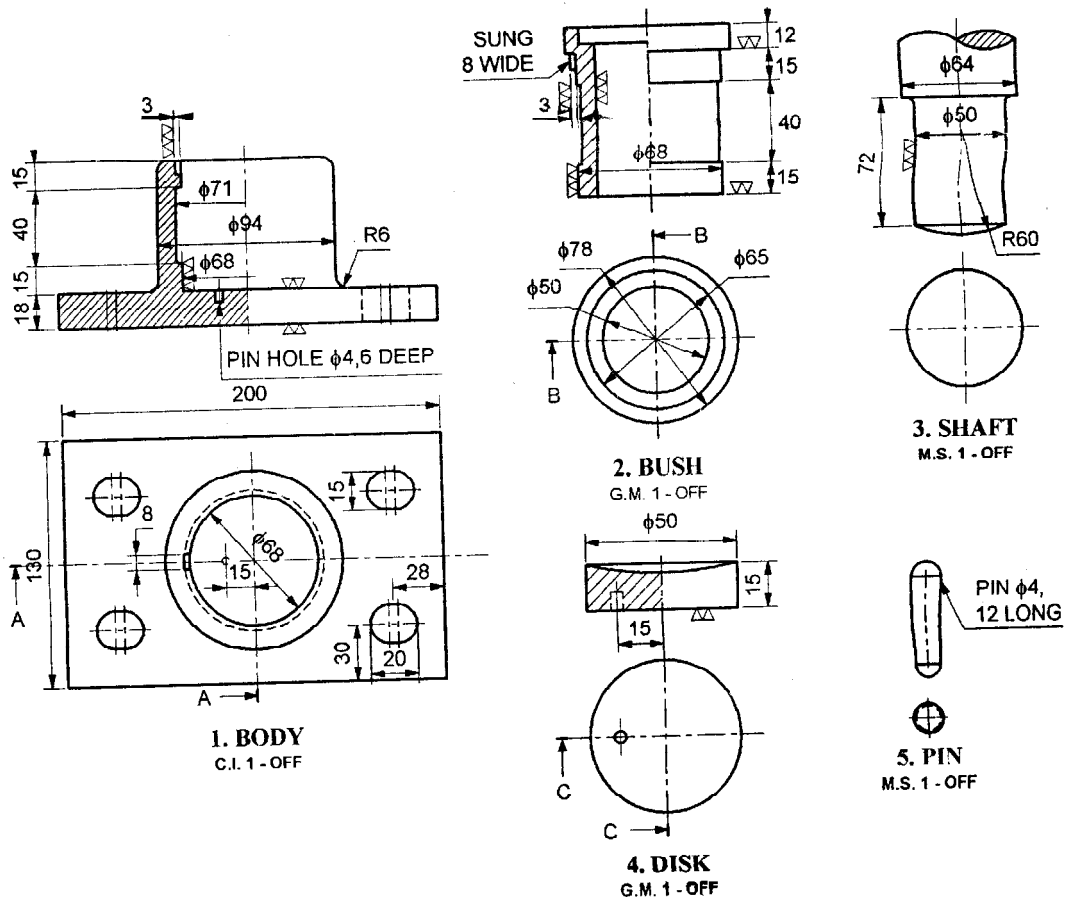

Fig. No. 3 Details of foot step bearing
- b) Figure No. 3 shows the details of foot step bearing. Draw the following views of the assembly.